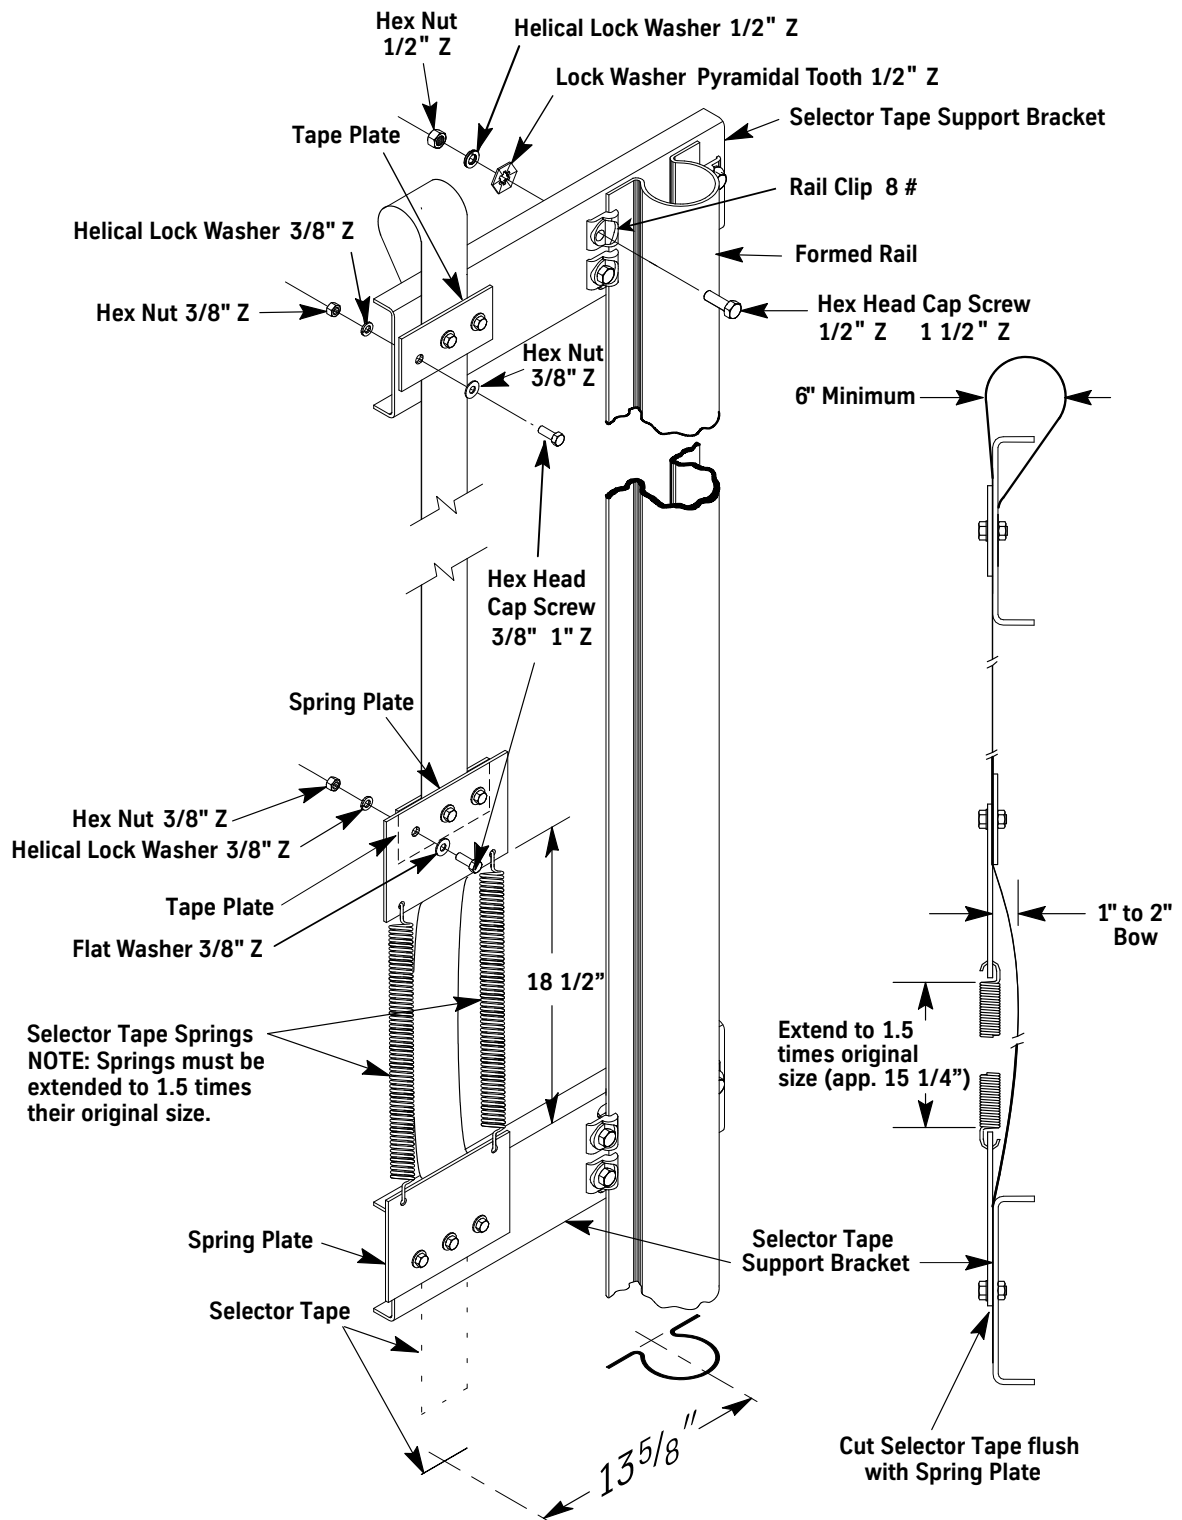

Figure 7 - Selector Tape Installation
1. Install the top tape support bracket. See the job layout for the proper quadrant and position, and Figure 7 on page 19 for all steps in this procedure.
6. Stretch the two (2) selector tape springs between the spring plates. If properly installed, the springs will be 1 1/2 times their normal length, e.g., a 10" spring will be stretched to 15".
7. Check the bow in the selector tape for the dimension given in Figure 7. If the bow is incorrect, adjust the tape at the bottom support bracket.